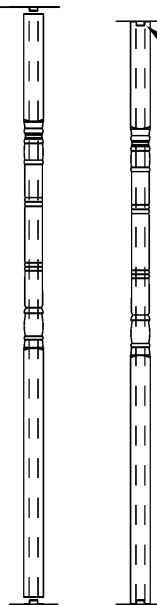

Fig.5
4. Raise the beam enough to allow the post to be positioned between the brackets. Lower the beam making sure the brackets fit into the center square tubing of the post. See Fig.5. An optional mounting kit to prevent uplift is available (Item #07252).